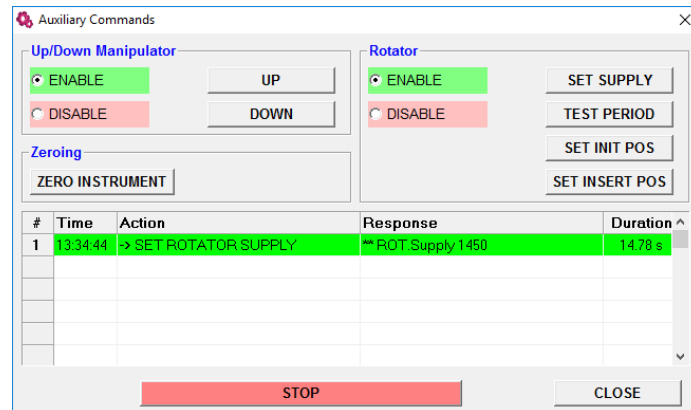

Figure 15: A print-screen of the Auxiliary Commands window.
1. Go to:    +  to launch the  window (Figure 15).